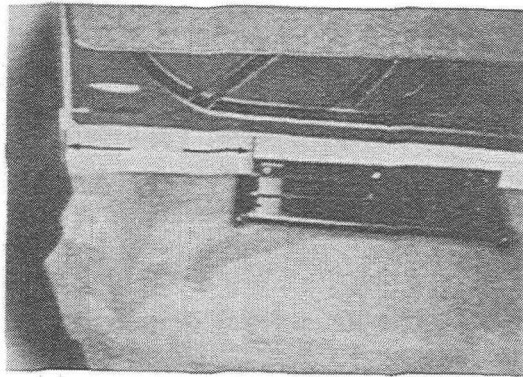

Figure 4
11. Measure back 13 cm from trunk sill panel to rear edge of CD changer bracket. Trace footprint of CD bracket onto trunk matting. Carefully cut matting along front and rear marks for bracket and fold matting inwards (Fig. 4).